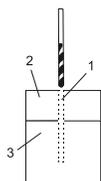

Figure 5
1. Clamp components that are to be screwed together in their desired position (Fig. 5).
2. Drill a pilot hole (1) through the outer piece (2) and into the inner piece (3). Drill hole 2/3 the diameter of the smooth portion of the screw shank.